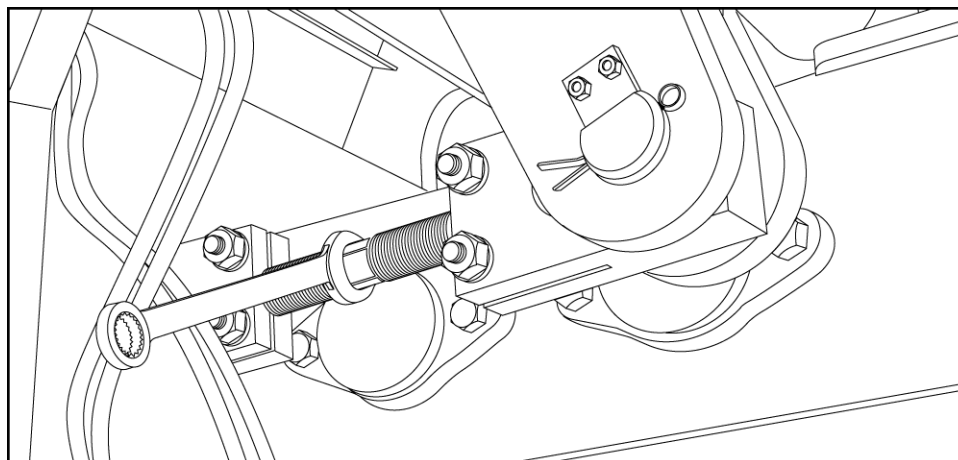

Figure 5.34 FEEDBOX LINKAGE
- 5.7.12 If adjustment is necessary, adjust the feedbox linkages (see figure 5.34).